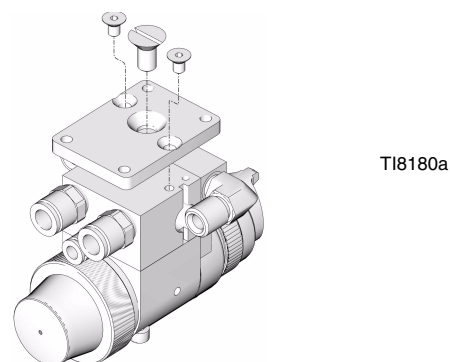

FIG. 5: Retrofit Adapter Plate
1. Mount adapter plate to manifold using the three screws provided with the kit (FIG. 5).